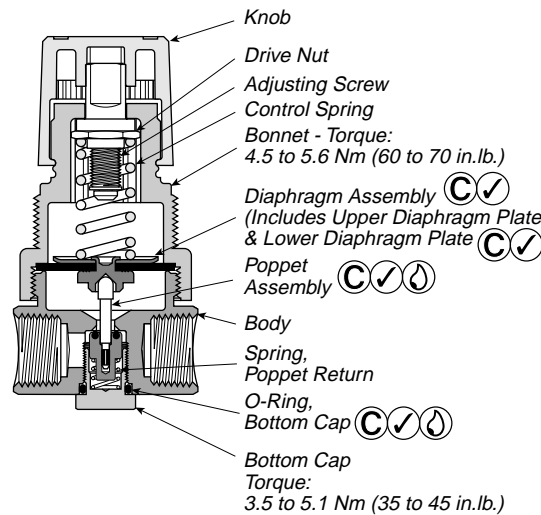

Figure 1
3. Install diaphragm assembly into body. Then install bonnet assembly to body. See Figure 1 for torque value.
4. Lubricate cap's o-ring and install it in o-ring groove on cap. Then screw cap into body until the cap bottoms out in body. See Figure 1 for torque value.